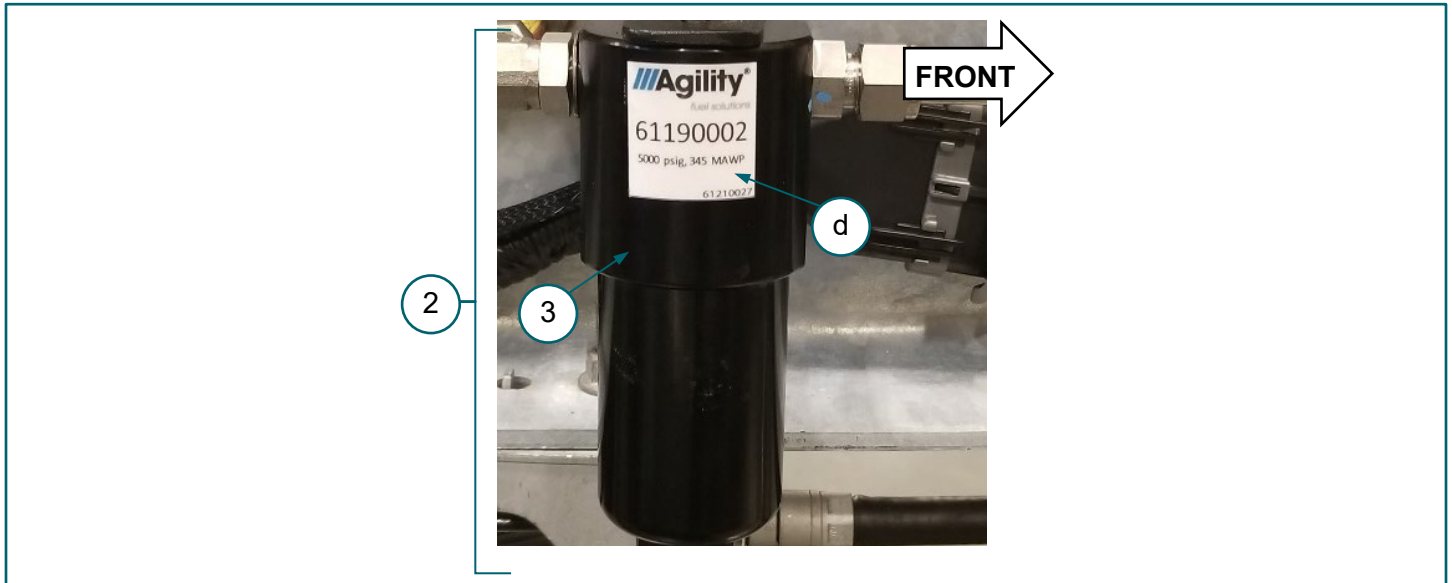

FIGURE 3-1. (2) high-pressure (HP) fuel filter assembly, (3) HP fuel filter head, (d) decal
1. *If present:* remove existing (d) decal from (3) HP fuel filter head. **FIGURE 3-1**